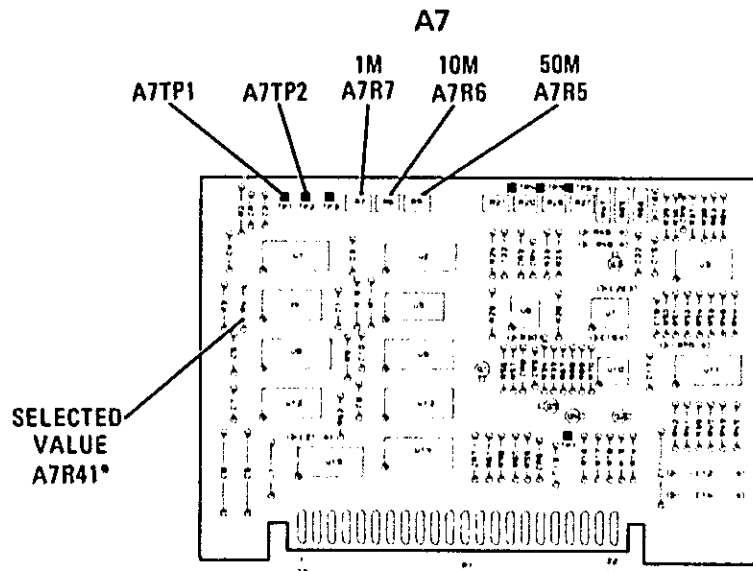

Figure 5-36. Marker Adjustments on A7
6. Connect scope probe to A7TP1 (Figure 5-36). Adjust A7 Marker Threshold potentiometers for the proper pulse width of each marker as follows: